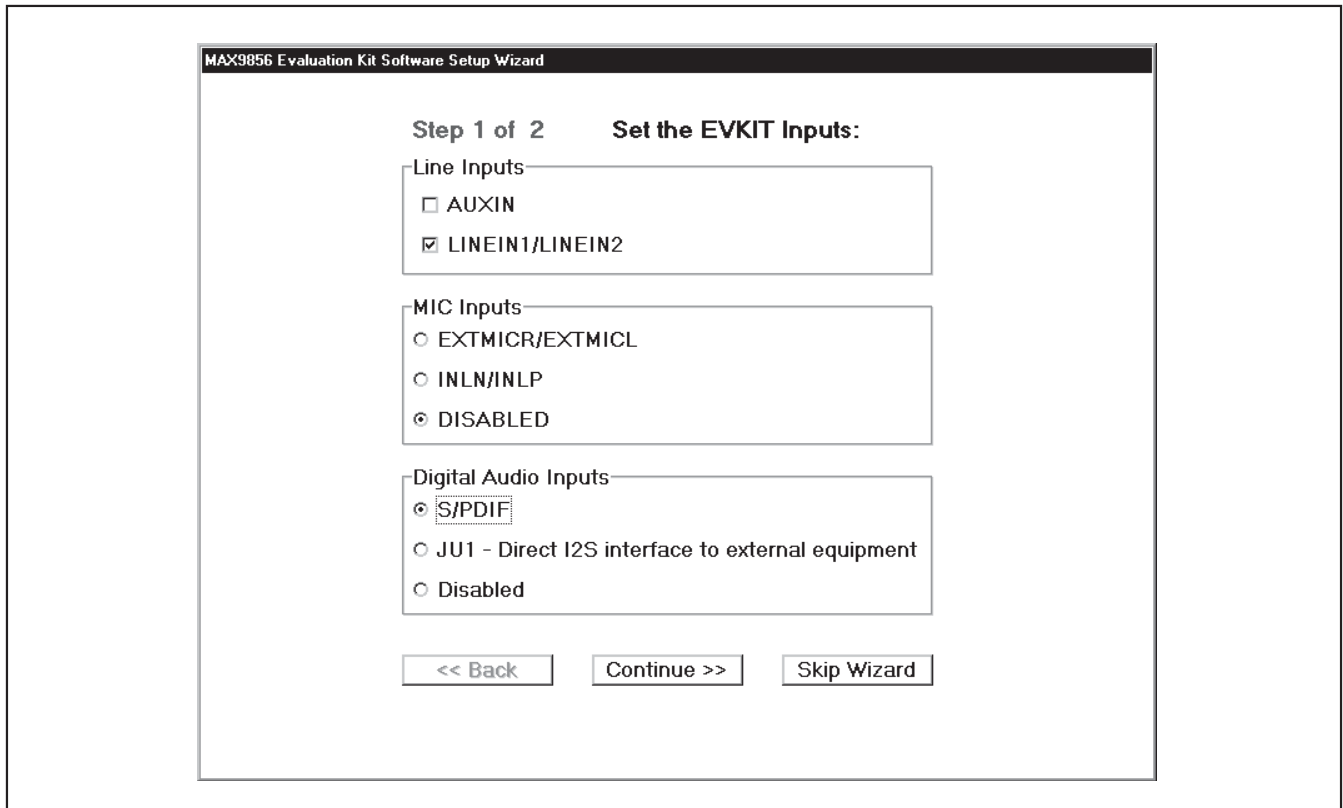

Figure 1. MAX9856 Evaluation Software (Setup Wizard Step 1 of 2)
- 11) Start the MAX9856 program by opening its icon in the **Start** menu. The setup wizard **Step 1 of 2** window appears (Figure 1).